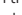

Fig. 154 Centre console, lower part: electronic parking brake button.
- Pull and hold the  **Fig. 154** button.
- Press the button  **Fig. 154**. At the same time step hard on the brake pedal or, if the engine is running, press the accelerator pedal slightly.